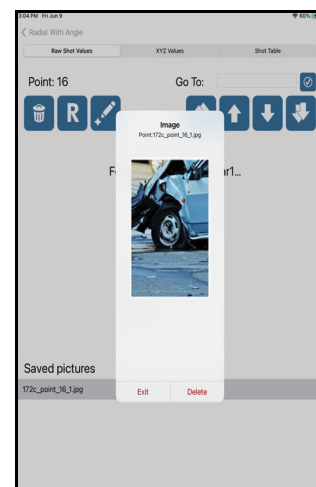

Figure 56
- A long-press of the image name will bring up a full resolution view of the image (Figure 56).